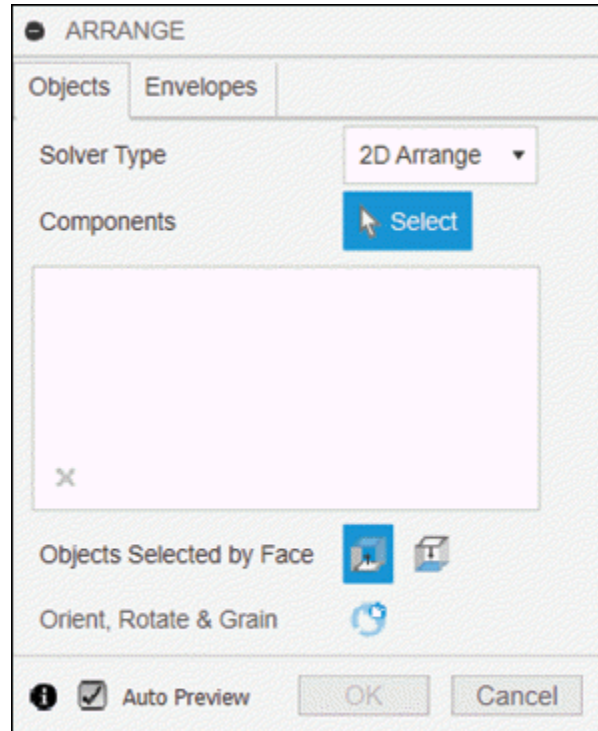

Figure-60. ARRANGE dialog box
- Click on the **Arrange** tool from the **MODIFY** drop-down in the **SOLID** tab of **Toolbar**. The **ARRANGE** dialog box will be displayed; refer to Figure-60 and you will be asked to select components for arranging.